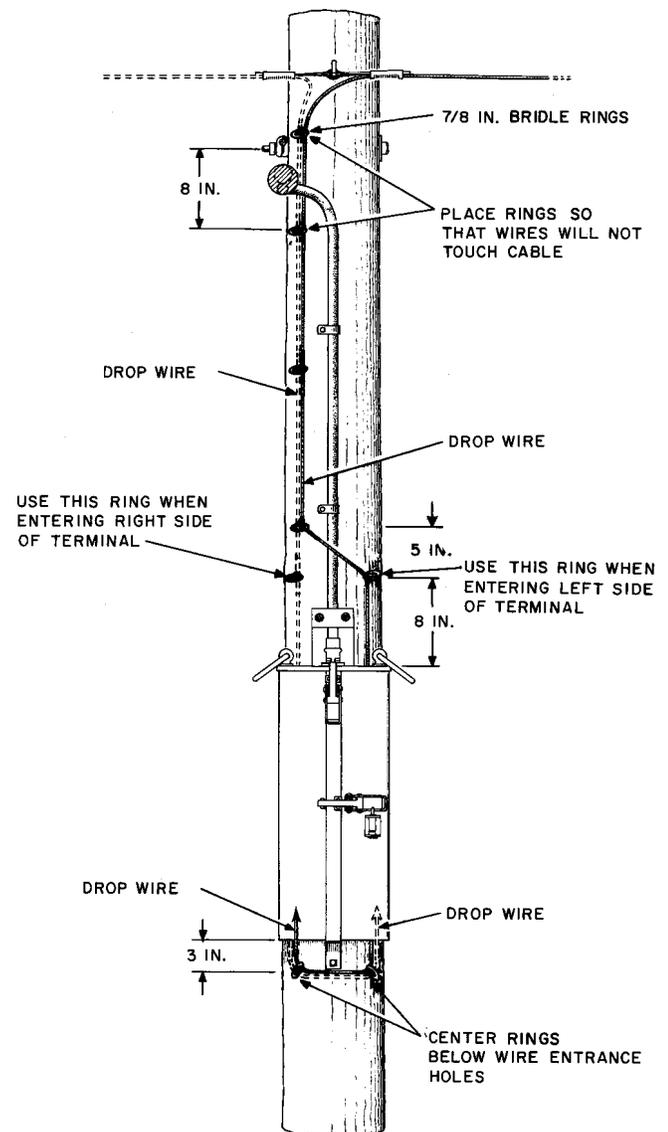

Fig. 2—Running Drop Wire
- (a) Place bridle rings on the pole as shown in Fig. 2.
- (b) Where a drop wire is to be terminated on the right side of the terminal chamber, run the wire down the right side of the pole behind the terminal, through the two rings below the terminal, and into the wire entrance holes on the bottom left of the terminal box. The routing is shown in Fig. 2. Where the drop wire is to be terminated on the left side of the terminal chamber, run the wire down the left side of
the pole behind the terminal, through the two rings below the terminal, and into the wire entrance holes on the bottom right of the terminal box. The routing is shown in Fig. 2.